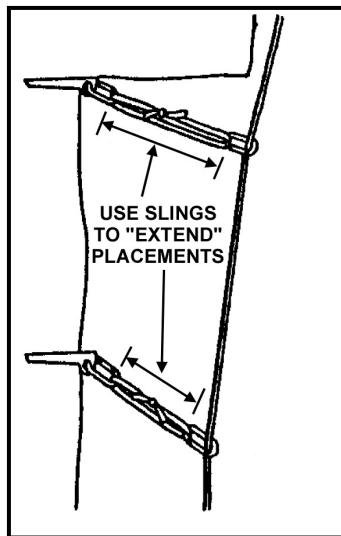

Figure 6-31. Use of slings to extend placement positions.
- (a) If it is not possible to place all the protection so the carabiners form a straight line as the rope moves through, you should “extend” the protection (Figure 6-31, page 6-52). Do this by attaching an appropriate length sling, or runner, to the protection to extend the rope connection in the necessary direction. The runner is attached to the protection’s carabiner while the rope is clipped into a carabiner at the other end of the runner. Extending placements with runners will allow the climber to vary the route slightly while the rope continues to run in a relatively straight line.